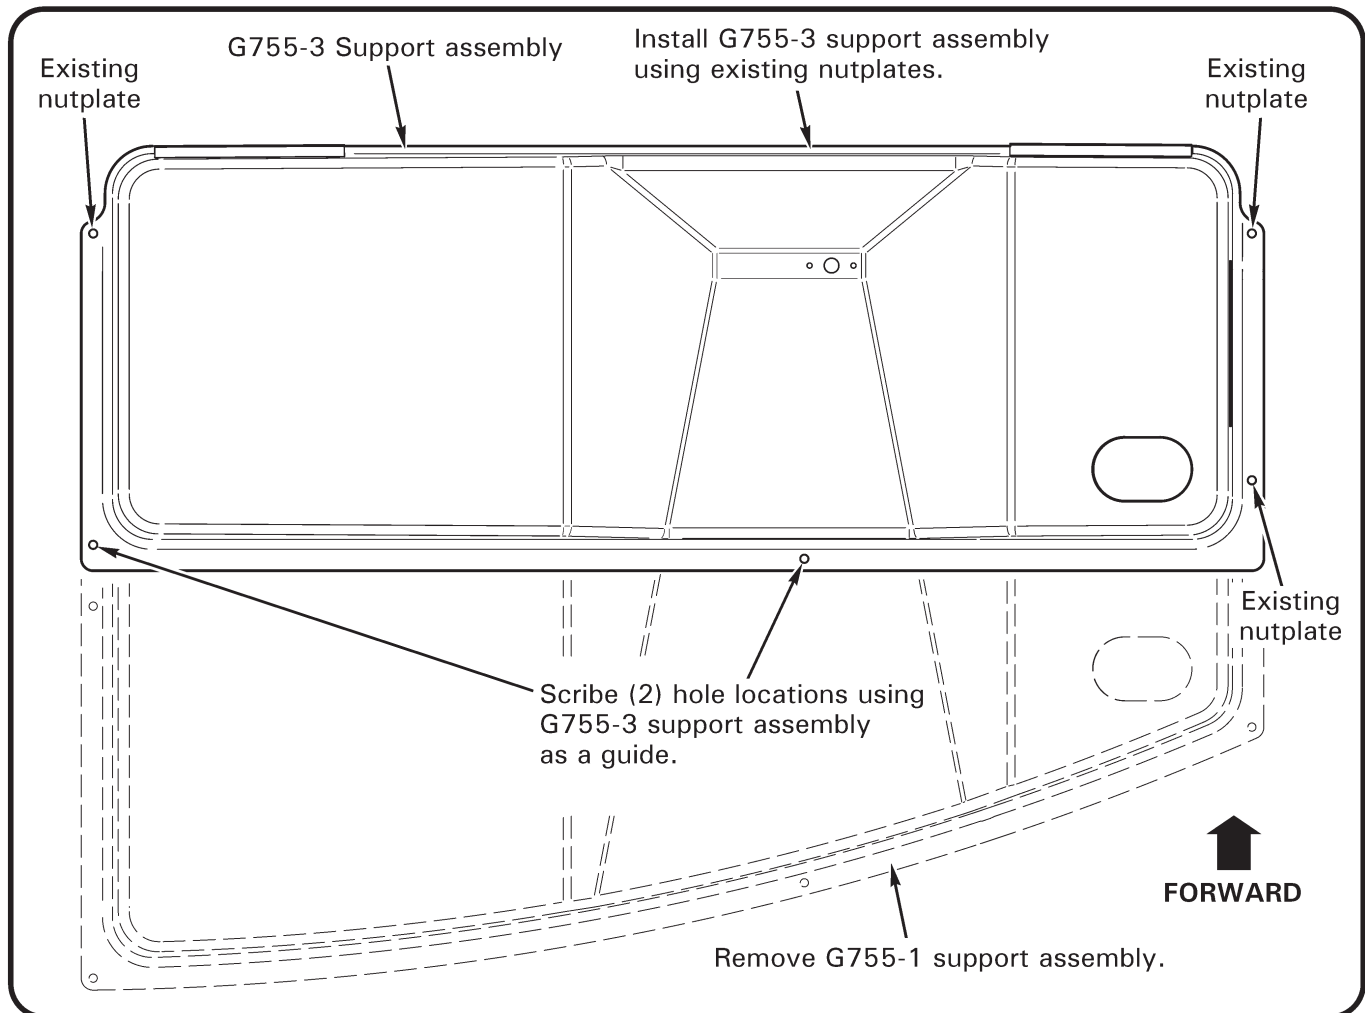

FIGURE 2 G755 supports
4. Refer to Figure 2. Using support as template, trace with scribe (2) holes onto G024 floor. Remove support.
10. Install G248-8 (battery compartment) cover assembly using retained (14) B526-6 screws.
11. Refer to Figure 2. Install G755-3 support assembly using retained (6) B526-6 screws securing support assembly to bulkhead, and retained (5) B526-8 screws securing support assembly to floor. Verify security.
12. Position G010-4 (small) aux tank assembly on support assembly (tank pin will align with relief in support); route drain tube into floor weldment. Install retained (6) B526-6 screws securing aux tank to G259-1 bulkhead, and retained (2) B526-6 screws securing aux tank to G248-8 (battery compartment) cover assembly. Verify security.